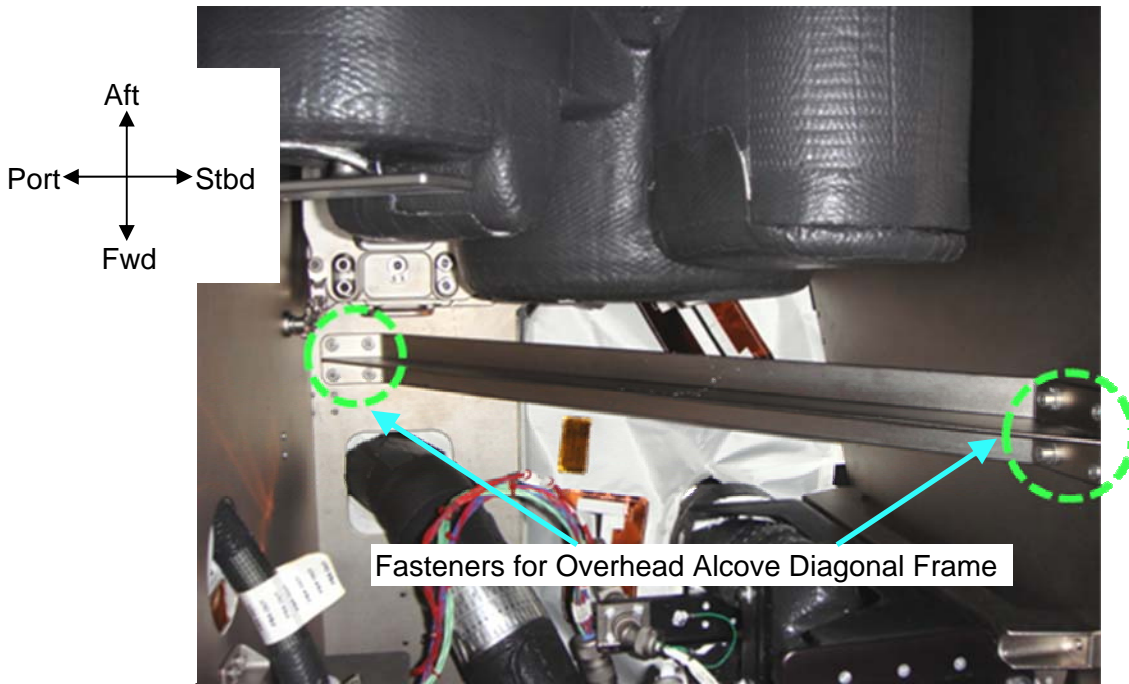

Figure 5.- Overhead Alcove Diagonal Frame.
- 2.2 Remove Overhead Alcove Diagonal Frame, fasteners (eight) (Ratchet, 1/4" Drive; 4" Ext, 1/4" Drive; 10" Ext, 1/4" Drive; 3/16" Hex Head, 1/4" Drive). Refer to Figure 5. Temporarily stow Diagonal Frame.